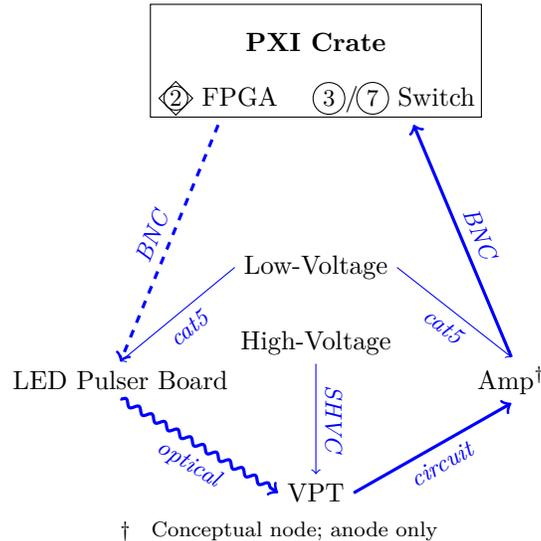

Figure 2: Rig Connections
Figure 2 is a conceptual view of the conduits between the components of the rig. The “Amp” branch is a simplification. Only the VPT anode connects to the amp, which then connects to the (7) Switch. The VPT cathode bypasses the amp and connects to the (3) Switch. The PIN diode (§2.2.2 VPT Branch), part of the VPT node here, also bypasses the Amp to connect to the (7) Switch.